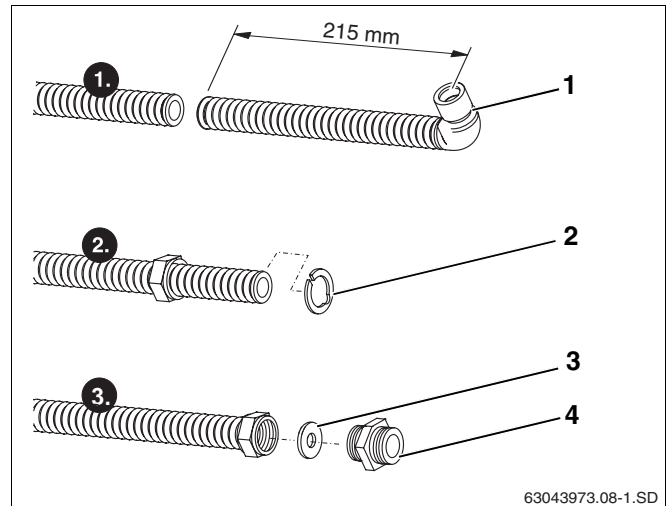

Fig. 38 Shortening the connection pipe (shown without insulation)
- ▶ Using a pipe cutter, cut the connection pipe 215 mm from the middle of the bend (Fig. 38, **Item 1**).
- ▶ Place clamping disc (Fig. 38, **Item 2**) behind the first rib and press together. The clamping disc must lie evenly on the collar of the union nut.
- ▶ Put large diameter washer (Fig. 38, **Item 3**) into the union nut in front of the cut surface of the connection pipe.
- ▶ Firmly screw double threaded fitting (Fig. 38, **Item 4**) into union nut, so that a flat sealing surface is created on the connection pipe.